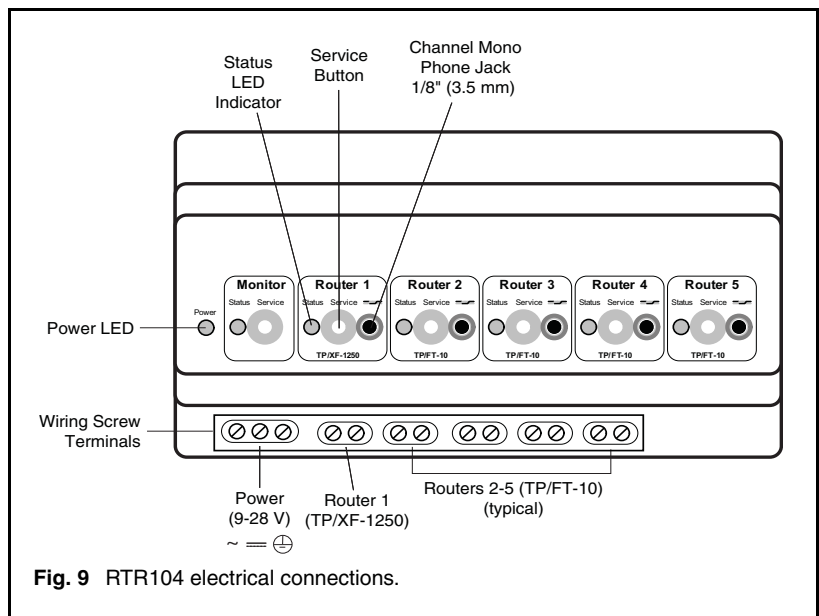

Fig. 9 RTR104 electrical connections.
- For the RTR104, use terminals 6 and 7, or 8 and 9, or 10 and 11, or 12 and 13 (see Figure 9).
- On the RTR104, use terminals 4 and 5 (see Figure 9).
- Connect incoming power connections to terminals 1 and 2 (see Figure 9).